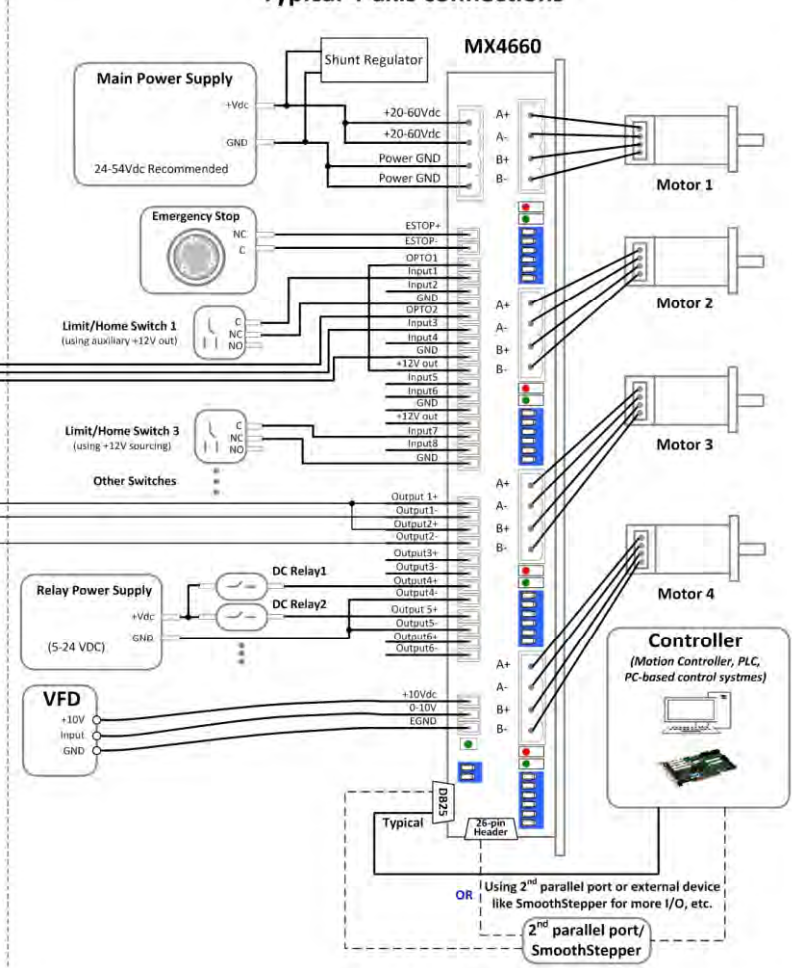

Figure 21 MX4660 Connection Diagram
**Output 1 and Output2** are connected to **Pin 17, 1 of the DB25 connector** respectively, and **Output 3, Output 4, Output 5 and Output 6** are connected to **Pin 17, 1, 8, and 9 of the 26-pin low profile connector** respectively. Connect one end of the load to “Output X+” (X can be 1, 2, 3, 4, 5, 6, 7 or 8) pin and the other end to the VDC+ of a 5-24VDC power source. Then, connect the related “Output X-” pin of MX4660 to the power supply VDC-. Those digital outputs are rated at max 70mA. Refer to figure 21 of “MX4660 Connection Diagram” on page20 for using high speed digital output to expand the 5th axis.
When implemented properly, the MX4660 can be used to power four 2 phase (1.8°) stepper motors of NEMA 17, 23, 24, and 34. In addition, it can also allow controls of optional external devices via the built-in digital inputs, digital outputs, and the opto-isolated analog output. Figure 21 illustrates the MX4660 connection diagram with 4 stepper motors. External devices through the MX4660 I/O connections are optional at a user's choice. **If you need to use input5, input6, input7, input8, output3, output4, output5 and output6, a 2nd parallel port or an external device like SmoothStepper is required.**